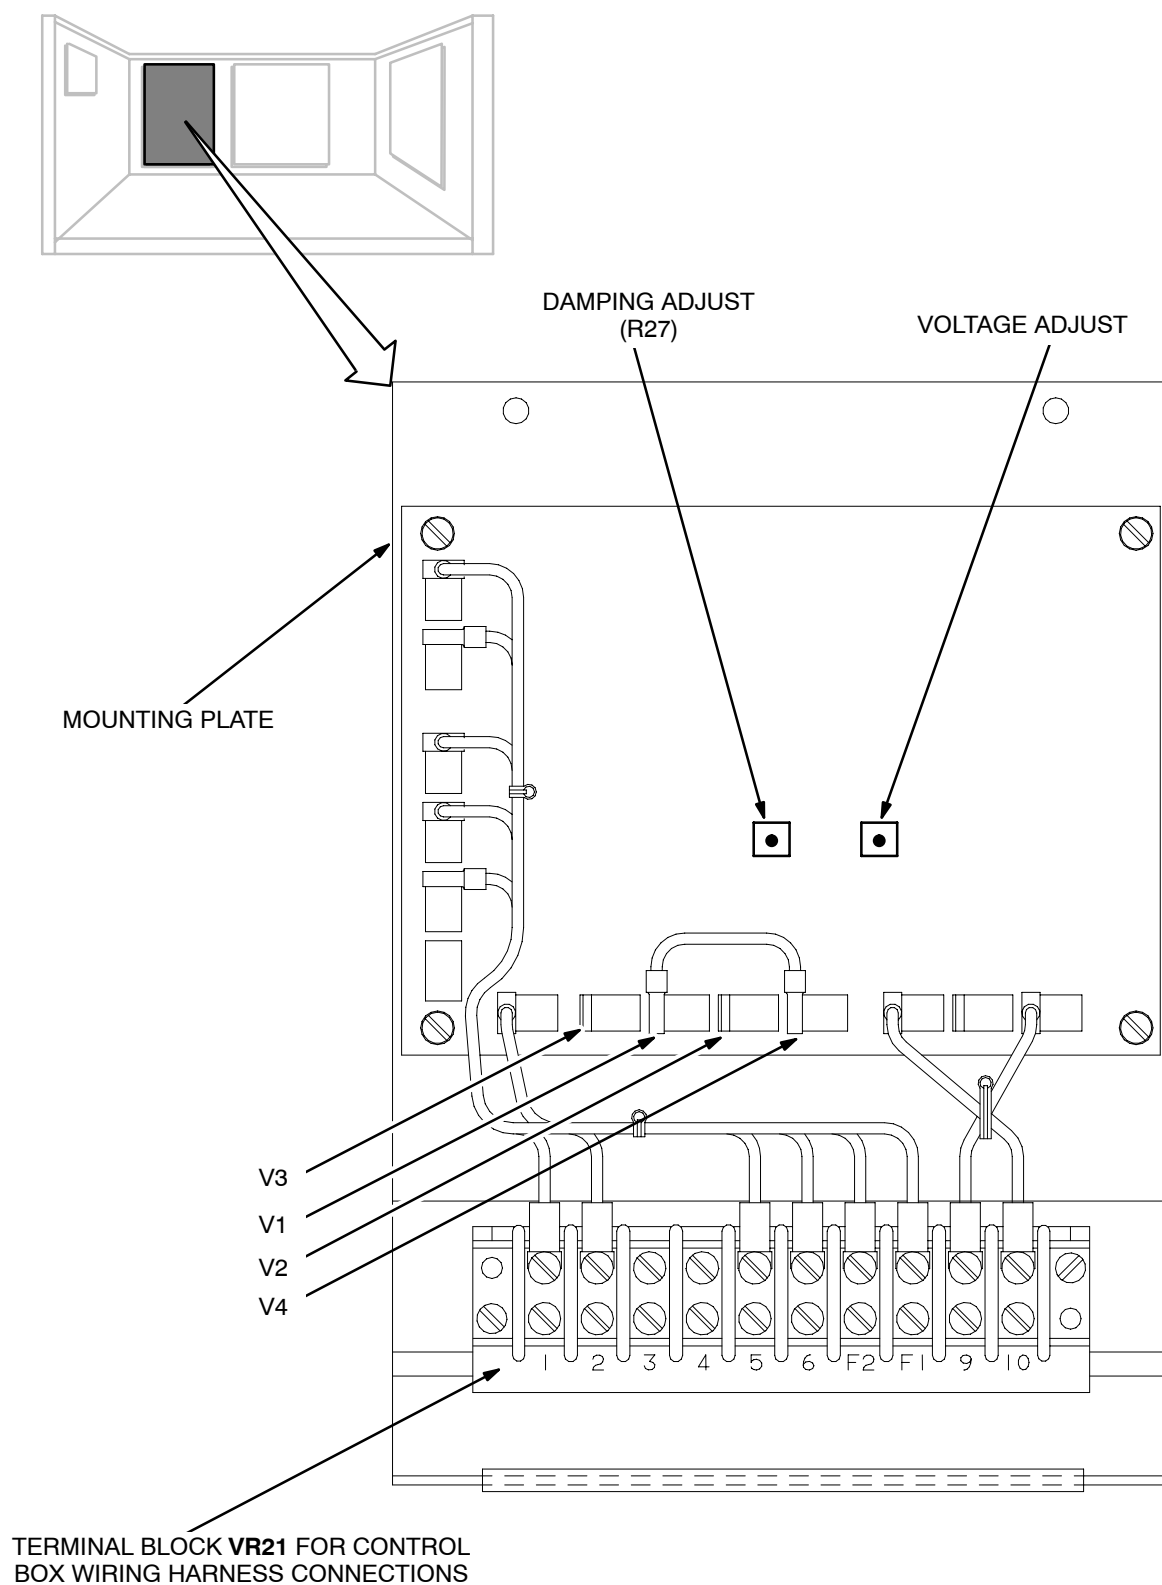

FIGURE 2-4. AVR-A VOLTAGE REGULATOR
The voltage regulator controls the output of the generator so that a constant voltage is maintained under varying load conditions. There are two types of automatic voltage regulators used on these sets, which are shown in Figures 2-4 and 2-5. For reference purposes only, they are identified as **AVR-A** and **AVR-B**.
trimmer does not provide enough adjustment, lock it at its midpoint. Then turn the **VOLTS ADJUST** pot (Figure 2-4 or 2-5) until rated voltage is obtained. Turn clockwise to increase output voltage; counter-clockwise to decrease output voltage.
1. With generator set running at no load, turn potentiometer **R27** (Figure 2-4) to a position where voltage tends to be unstable or hunt.